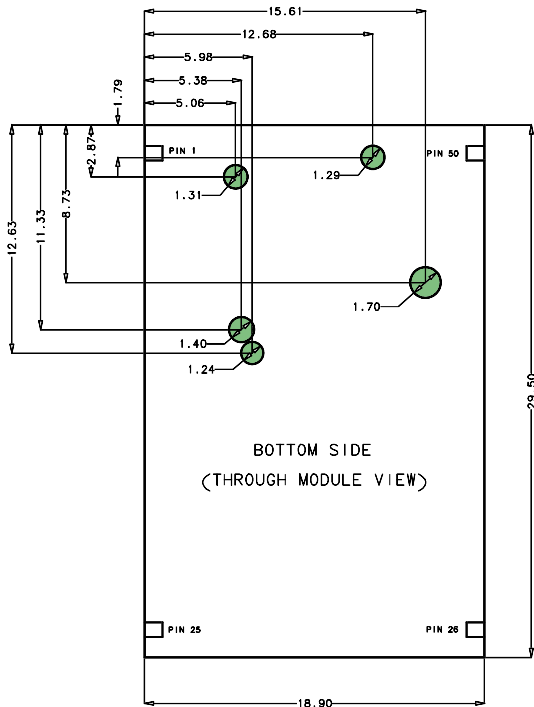

Figure 50: Signals keep-out below data module on application motherboard due to GND opening on data module bottom layer for internal RF signals
2. Signals Keep-Out below module on Application Motherboard due to GND opening on LEON-G100 / LEON-G200 bottom layer for internal RF signals (see Figure 50).